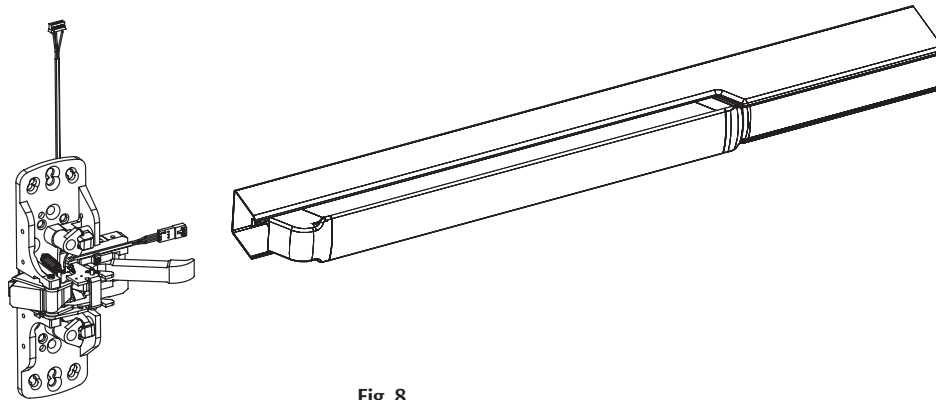

Fig. 8
5. Install rail assembly (Fig. 8)